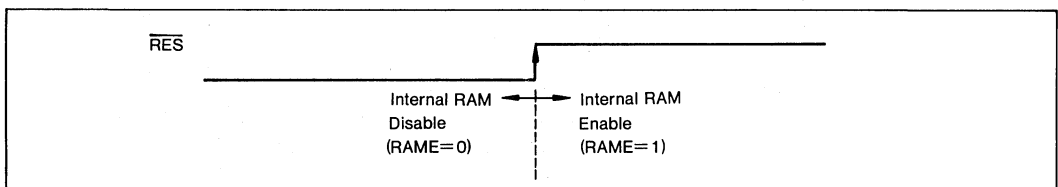

Figure III-18. RAME at Reset
**Answer:** It is set at the rising edge of  $\overline{\text{RES}}$  (figure III-18).